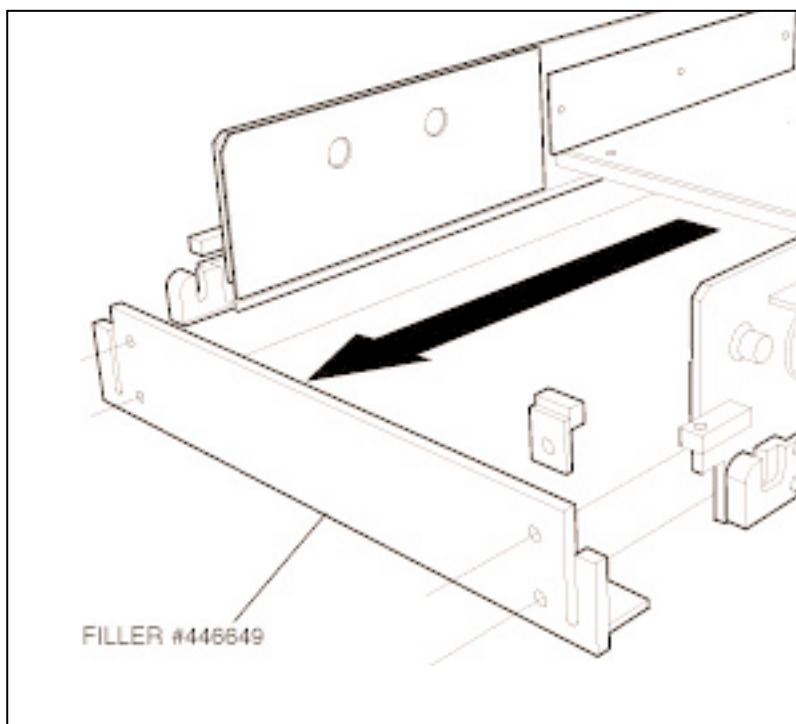

Figure 19.6 REMOVING FILLER FROM FEEDBOX.
19.1.6 Remove filler #446649 from feedbox (see figure 19.6)